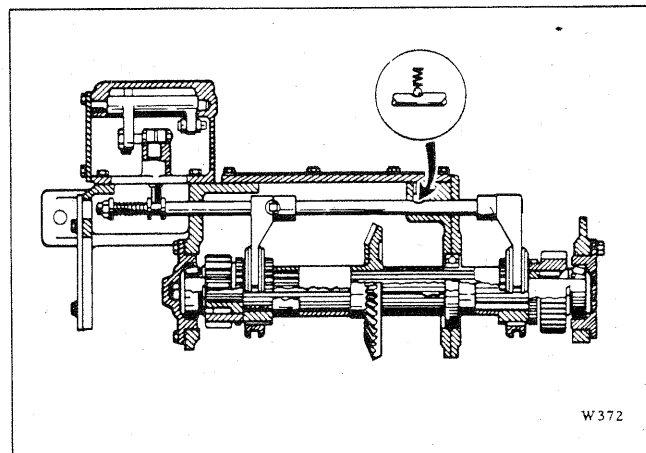

FIGURE 4-3. ADJUSTMENT OF CLUTCH LINKAGE, DIRECT DRIVE WINCH
a. Remove the manifold cover and place the shifter assembly in Neutral (see Figure 4-3). The shifter linkage will positively detent to this position.